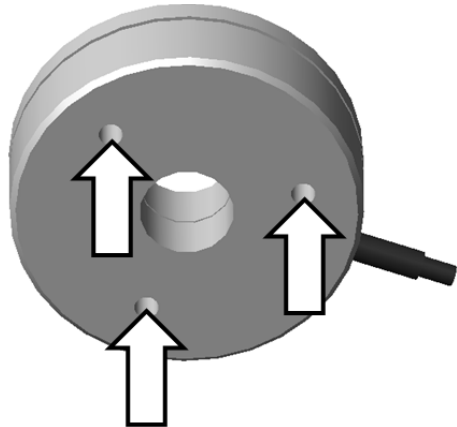

Fig. 2: Mounting holes in the base body of the S-303
1. Align the S-303 so that the mounting holes in the base body (see Fig. 2) are in line with the corresponding holes in the surface.